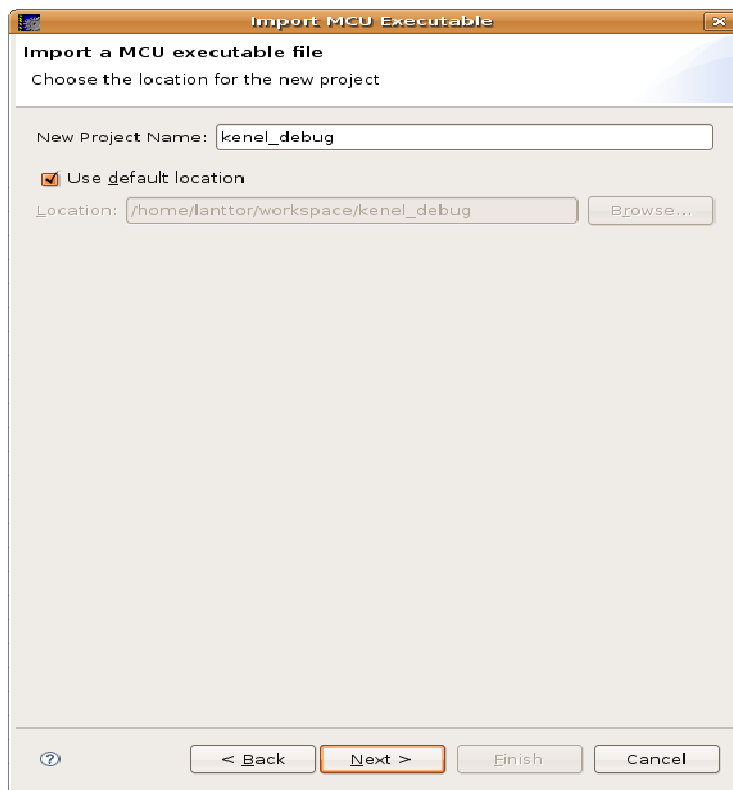

Figure-11 Import MCU Executable
4) Specify a name in the New Project Name text box. Click Next. Please refer to Figure-11.